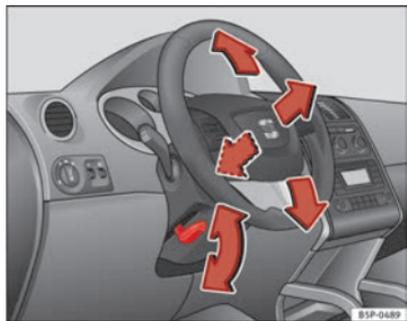

Fig. 132 Adjusting the steering wheel position
- Push the lever under the steering column ⇒ Fig. 132 down ⇒ ⚠.